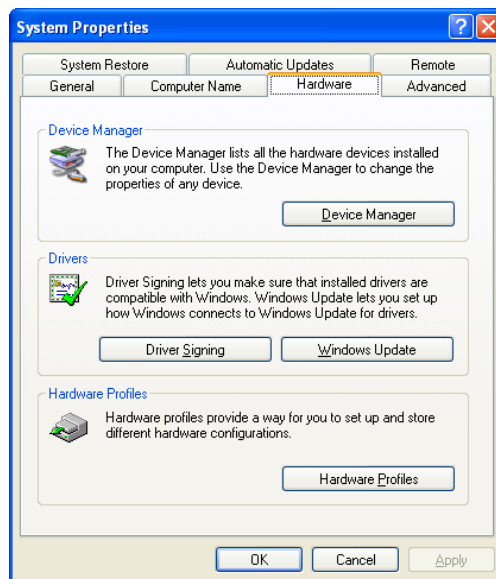

Figure 6 – Hardware tab under the System Properties control panel.
- Click on **Device Manager** under the **Hardware** tab (Figure 6).